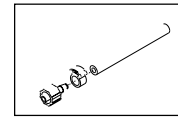

Figure 2-4
1. Cut tubing and install fittings and clamps as shown in figure 2-4.